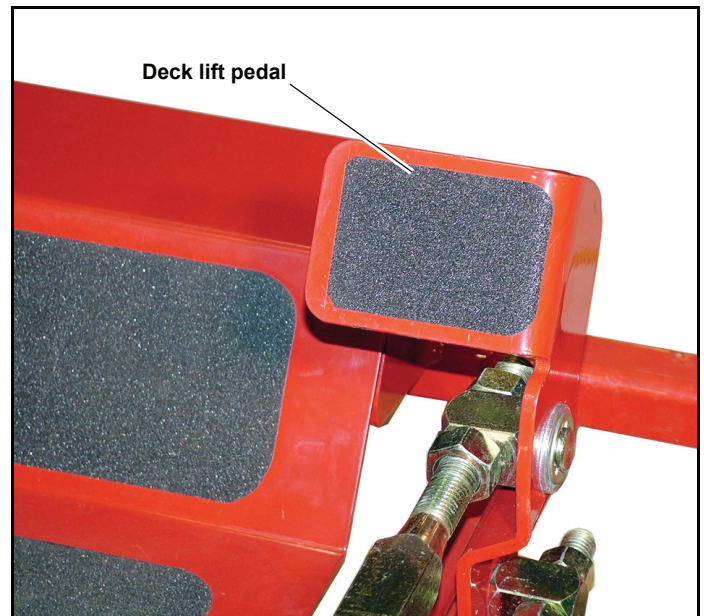

Fig. 3-5
- B. **Deck lift pedal (Fig. 3-5)** — the deck lift pedal is used to raise or lower the deck. Push on the pedal to raise the deck and then place the deck height locking pin into the desired cutting height hole. Push the deck lift pedal to raise the deck when going over obstructions.